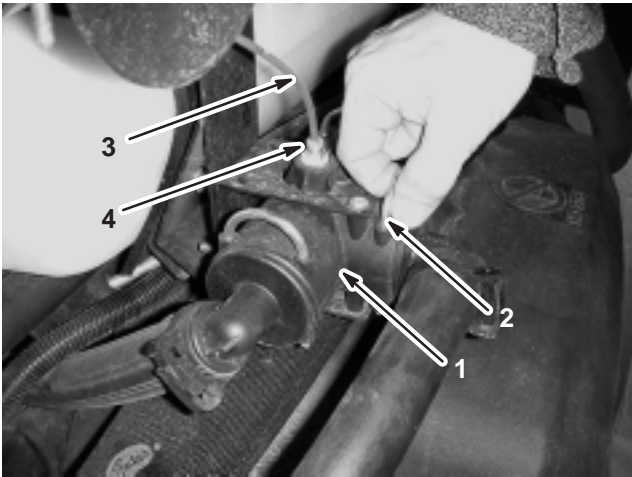

Figure 7
1. Remove hose retainer to disconnect the boom hose from the supply tee (Fig. 7).
2. On a Multi-Pro 1200 Sprayer, disconnect the small red pressure gauge tube from the green tube fitting on top of the supply tee (Fig. 7). To disconnect, press down on the tube fitting while pulling up on the tube.